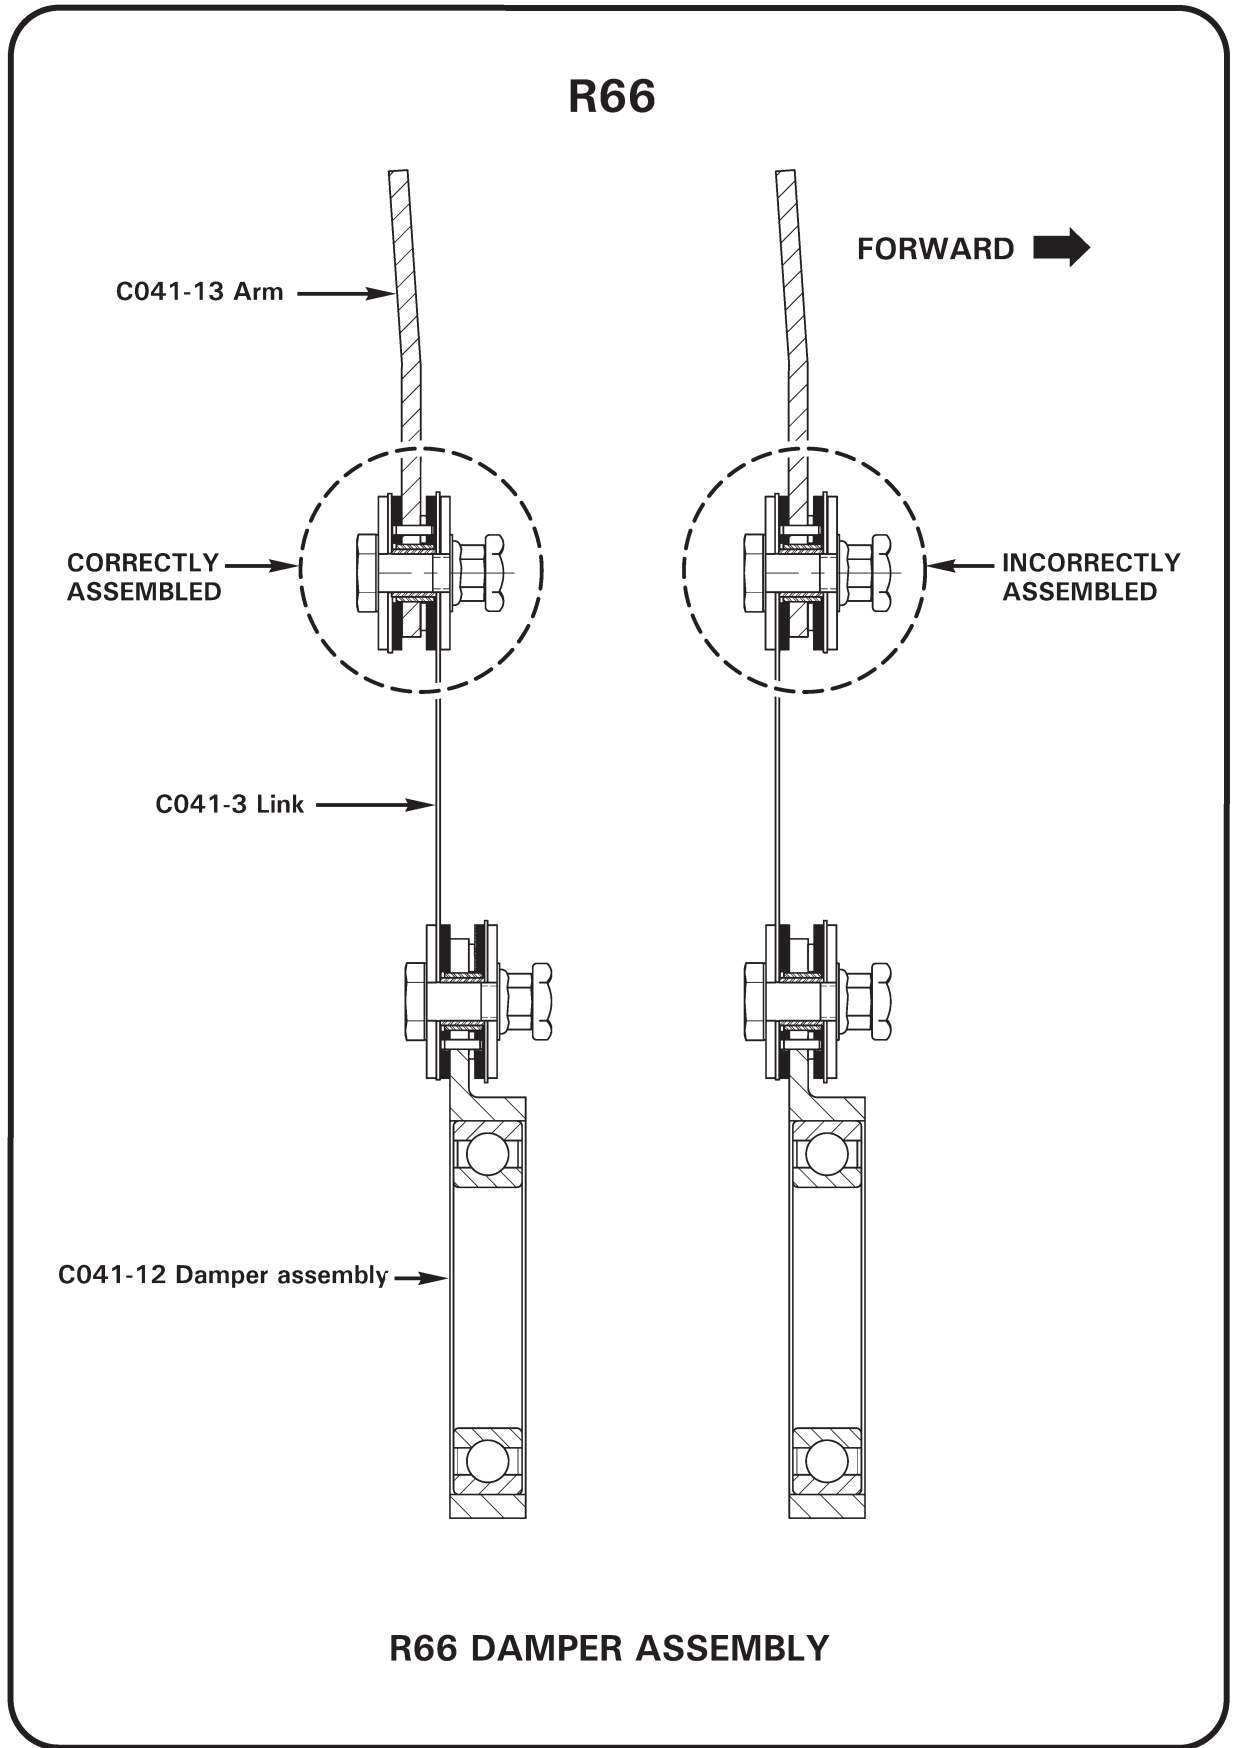

FIGURE 1
2. Refer to Figure 1. If C041-12 damper assembly's C041-3 link is installed forward of C041-13 arm, reinstall inspection plug; no further action is requested.
3. If damper's C041-3 link is installed aft of C041-13 arm, reinstall inspection plug and remove tail rotor drive shaft assembly per R66 Maintenance Manual (MM) § 65-20.